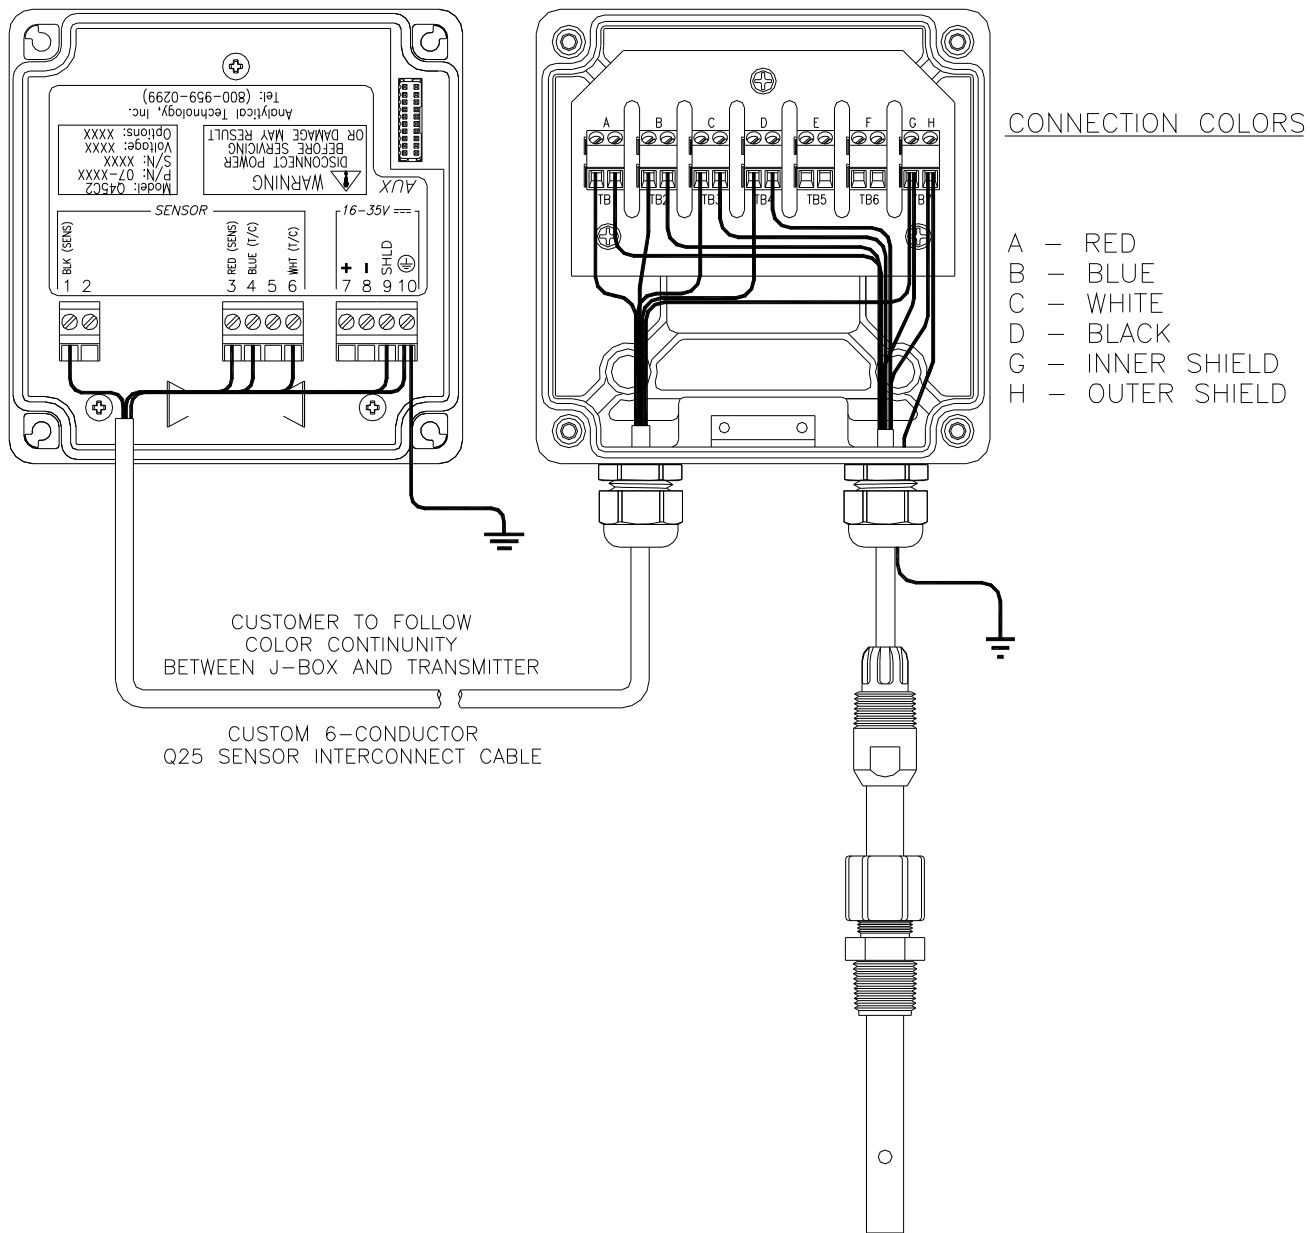

Figure 8 - Junction Box Interconnect Wiring
For installations where the sensor is to be located more than 30 feet from the monitor (max. 100 feet), a junction box must be used. The junction box is shown in Figure 8, and is supplied with a (2) Pg 9 cord grips for sensor and interconnect wiring.